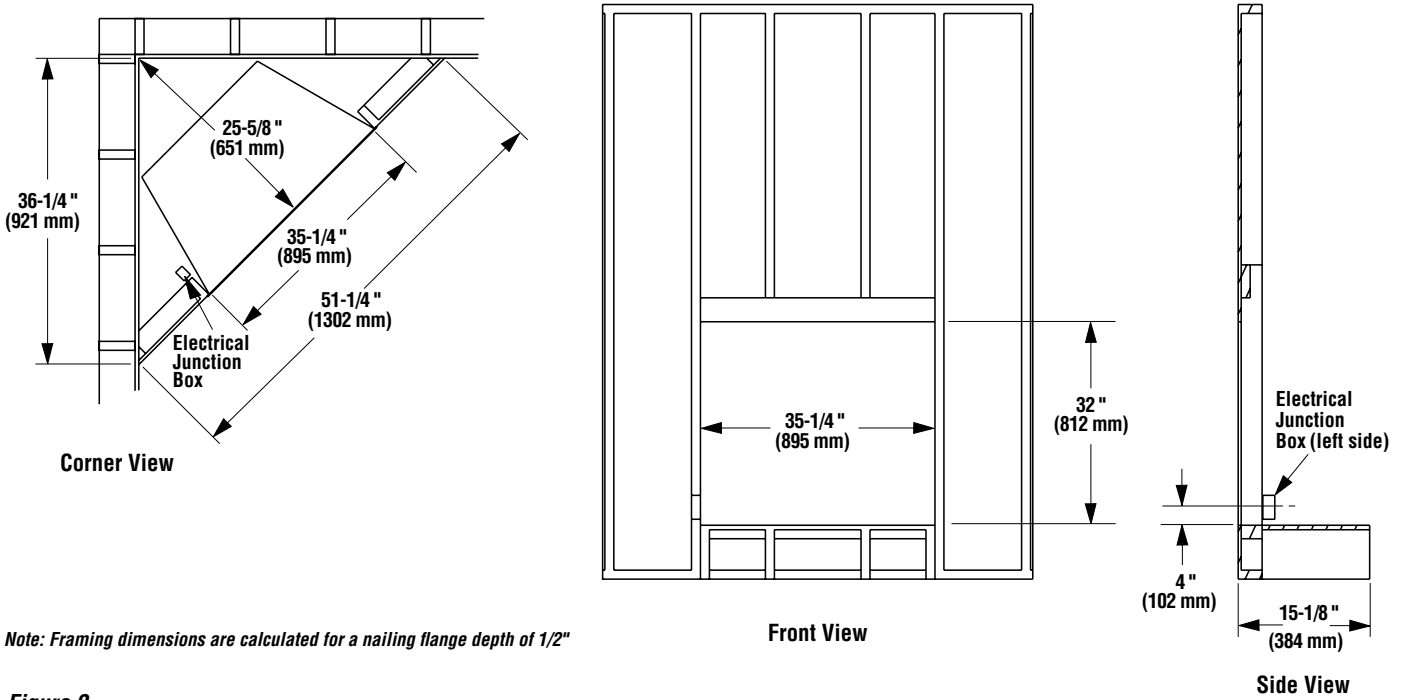

Figure 2
1. Complete the framing opening to the dimensions specified in **Figure 2**.
- 120 Volt Connections** - Locate the power cord on the left side of the unit and connect it to the outlet installed during the framing (see **Figure 2**). Verify that the power to the receptacle is off.